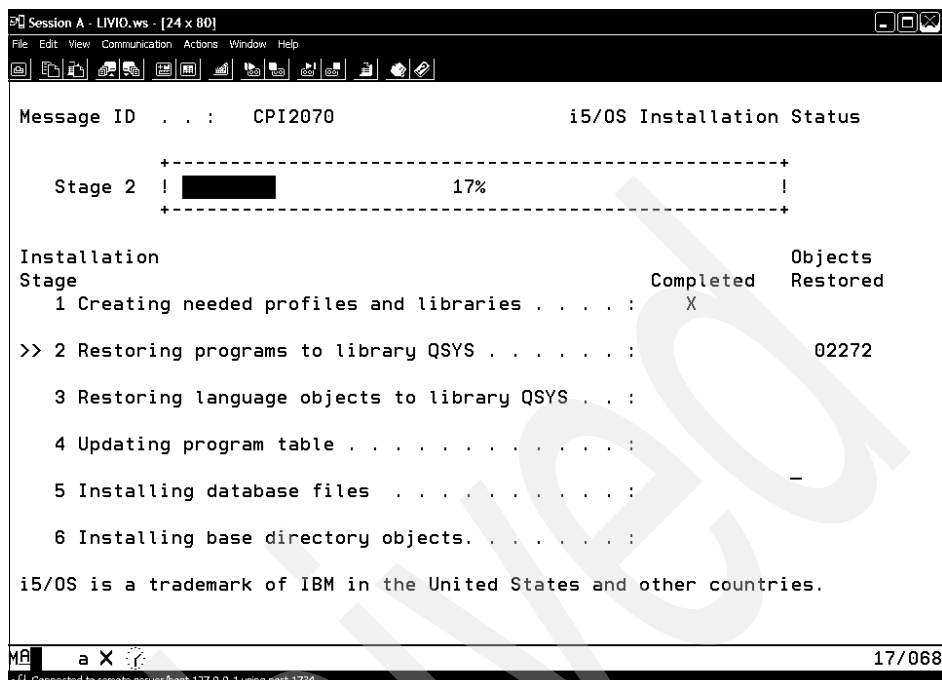

Figure 5-49 Installation status
7. Figure 5-49 on page 268 shows an example of a status display in the operator console during the installation process. No further action required. Note that the display will be blank for a while between Installation Stage 4 and 5.